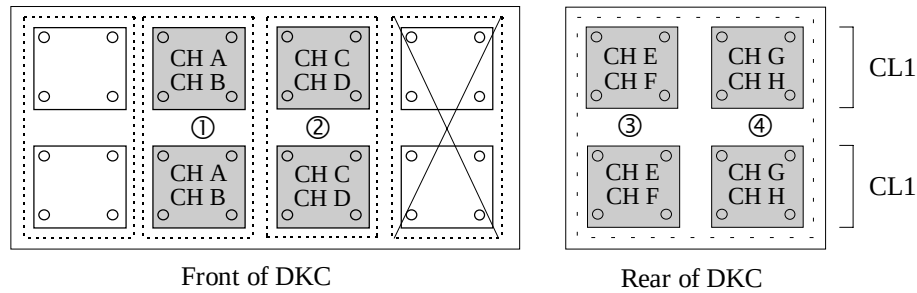

Fig. 3.6.2-3 Location of I/F Connector Panel
Install the I/F connector panel in the installation at Basic, Add.1 to the location number ① and ②, ③ and ④ respectively referring to Fig. 3.6.2-3.
- Remove the dummy plate referring to Fig. 3.6.2-4.